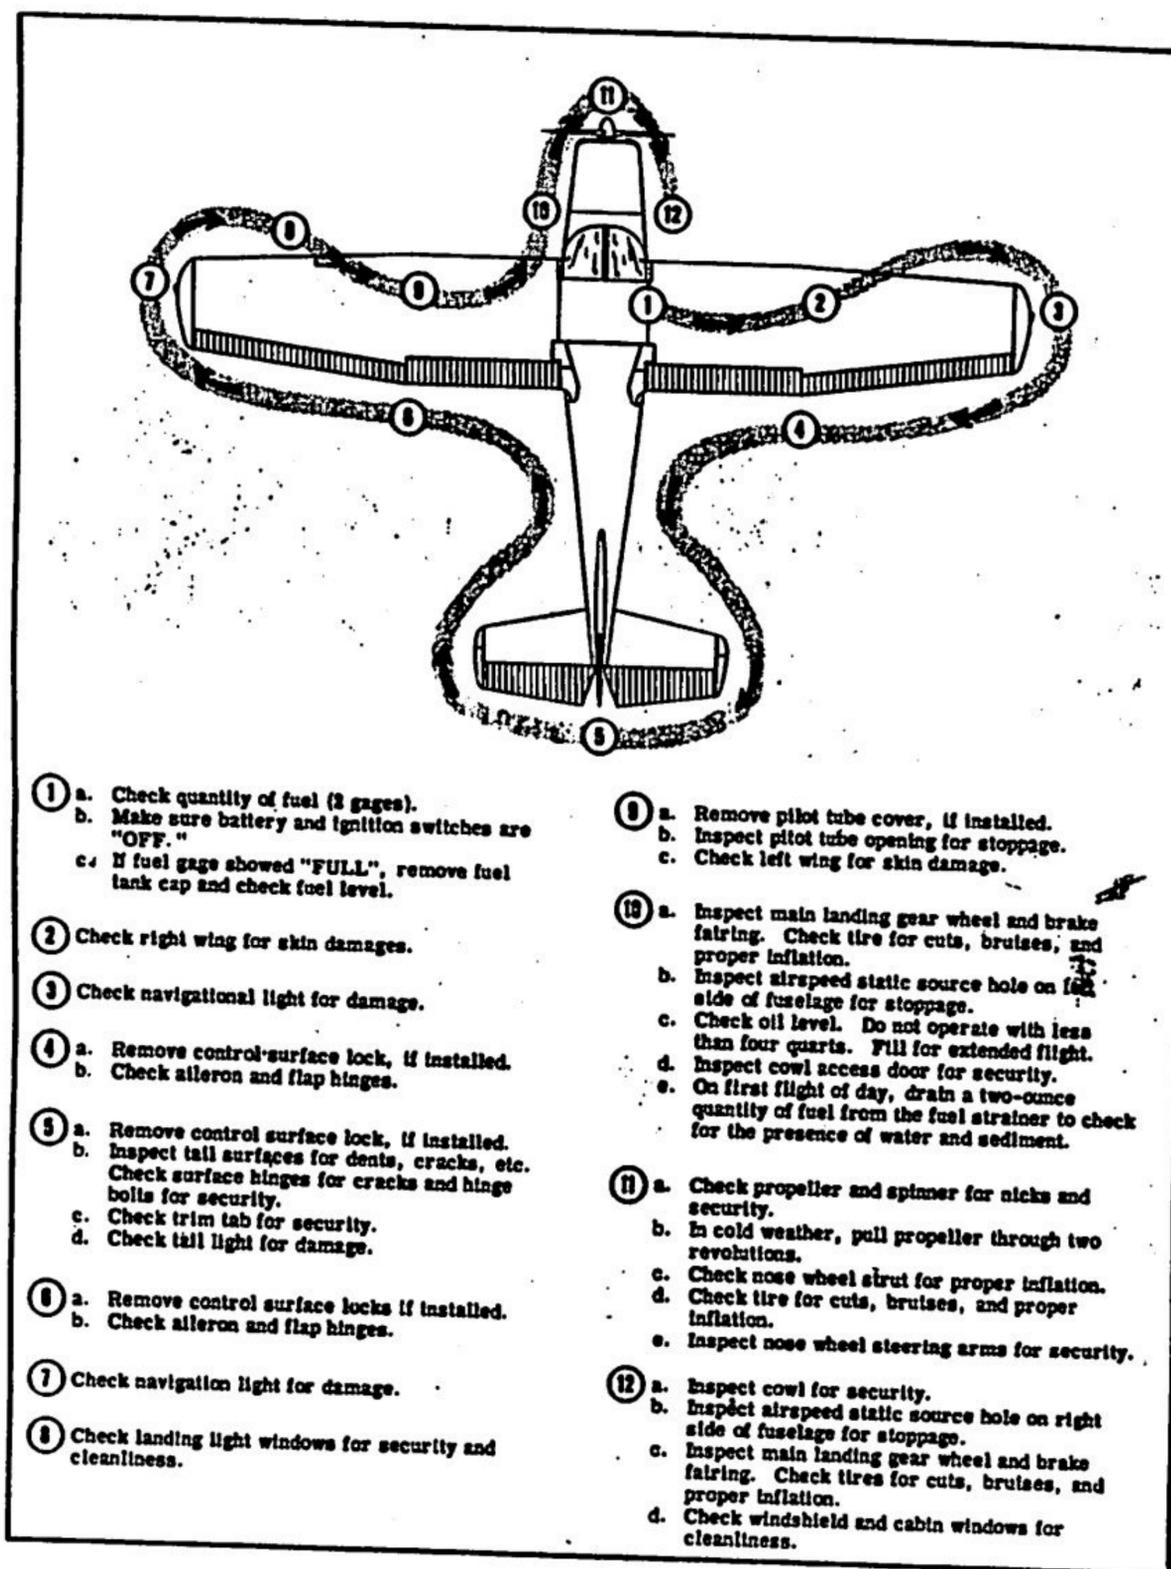

Figure 6. Exterior Inspection Diagram
- (1) Check oil level. Do not operate on less than four quarts. Fill for extended flights.
- (2) On first flight of the day, drain a small (one-ounce) quantity of fuel from fuel strainer drain to insure that no free water is in the line.
- (3) Check quantity of fuel.
- (4) Make a visual check of the airplane (see figure 6).
- (5) Remove control locks, and nose gear tow bar if installed.